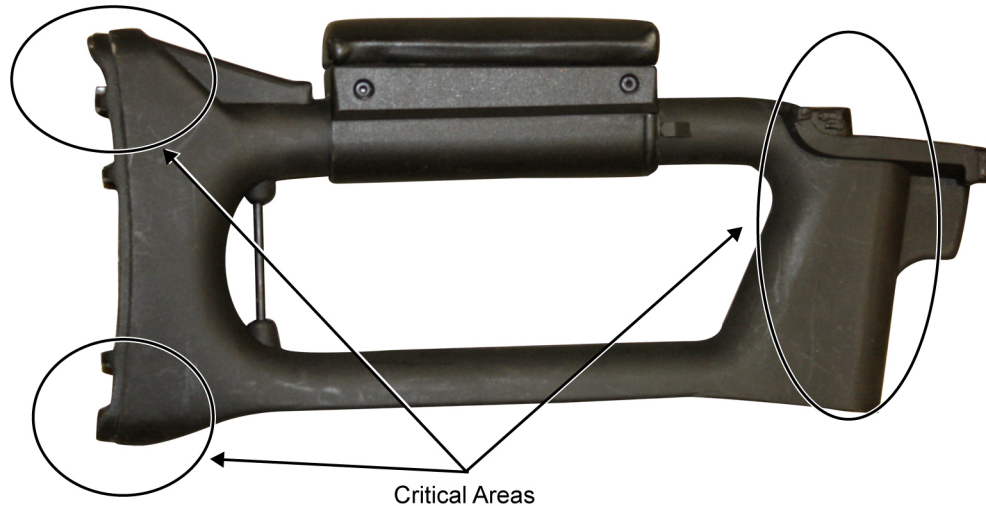

Figure 4. Critical Areas of the Buttstock.
7. Inspect the buttstock for cracks. Hairline cracks or cracks that do not interfere with operator safety or retention on the receiver. Are acceptable. Any cracks in critical areas are NOT acceptable. Replace if unserviceable. Refer to Figure 4.